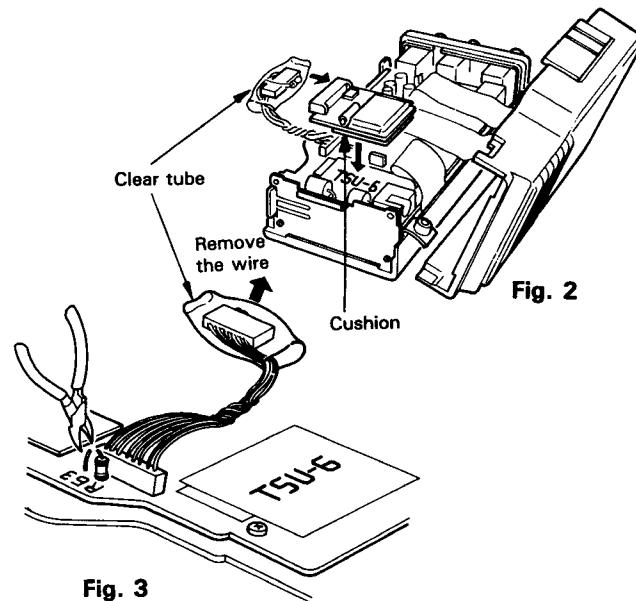

Fig. 2
1. Remove the backing from the cushion that was provided the TSU-6 and attach it to the back of the TSU-6 as shown in the Fig. 2.
5. Gently remove the front panel. Be sure not to disconnect the wire to speaker (Fig. 2).
8. Attach the cable from TSU-6 (Fig. 2).